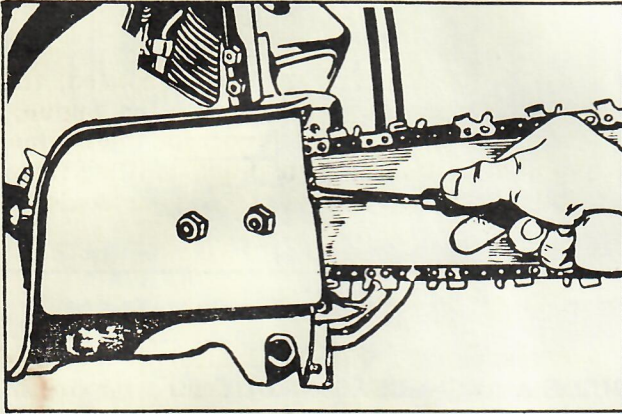

Figure 5. Adjusting Chain Tension
7. Adjust chain tension by turning chain adjusting screw with screwdriver (See Figure 5). Tighten adjusting screw until snug. Tighten the two sprocket cover nuts and check chain tension. For proper method of checking chain tension, see the Instruction sheet packed in the chain package. Readjust if necessary and recheck often during break-in period. This will help assure long chain and guide life.
6. Adjust screw until guide is fully retracted (See Figure 5). Place the chain over the sprocket and into the guide groove. Be sure the chain is placed so that the cutting edges are away from the engine when viewed on top of the guide. Connect the chain with the connecting pin provided in the chain package according to the instruction sheet packed in the chain package.
8. Adjust chain tension by turning chain adjusting screw with screwdriver (See Figure 5). Tighten the two sprocket cover nuts and check chain tension. See the instruction sheet packed in the chain package. Reset if necessary and recheck often during break-in period. It is important to keep chain snug on guide at all times to get maximum life of chain, guide and sprocket.